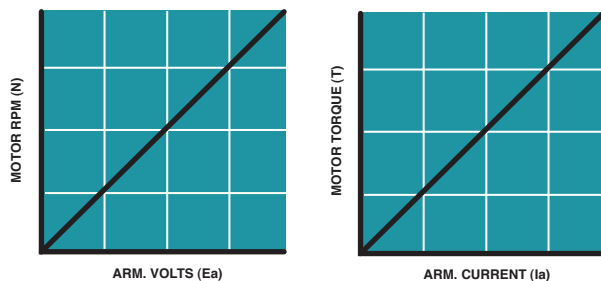

FIGURE 5. DC MOTOR CHARACTERISTICS
The speed (N) of a DC motor is proportional to its armature voltage; the torque (T) is proportional to armature current, and the two quantities are independent, as illustrated in Figure 5.